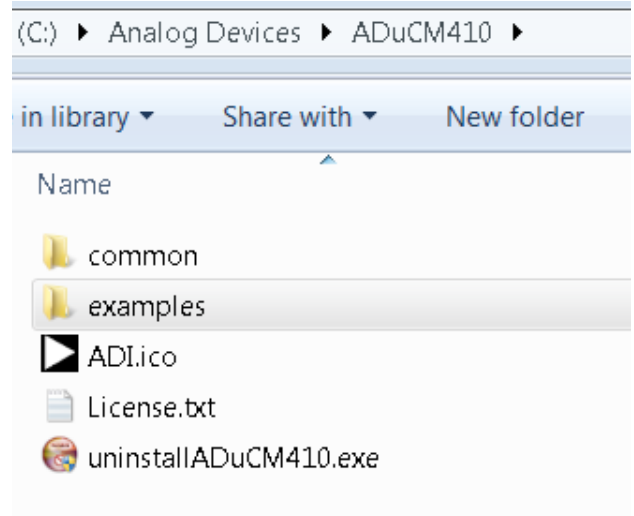

Figure 4. ADuCM410 **examples** Folder with Projects
3. After installation, the `\AnalogDevices\ADuCM410` folder opens. This location contains the **examples** folder that stores the example codes for the ADuCM410 (see Figure 4).